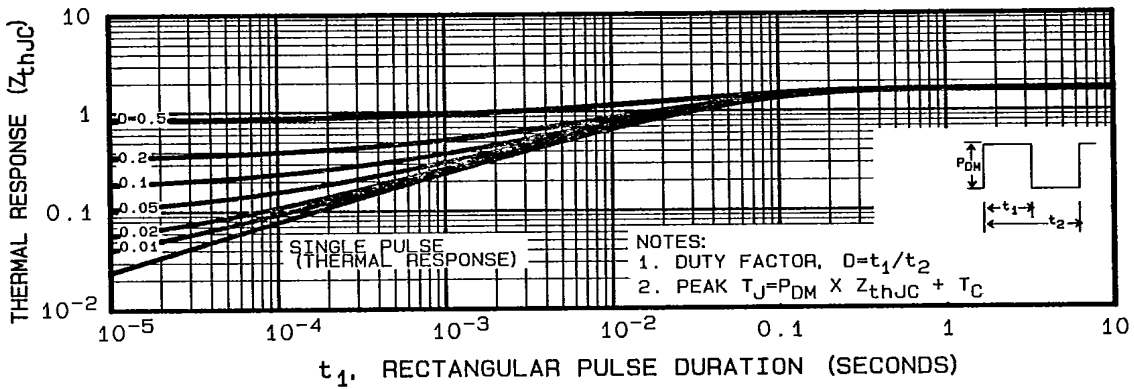

Fig. 5 — Maximum Effective Transient Thermal Impedance, Junction-to-Case Vs. Pulse Duration
- ① T_J = 25°C to 150°C
- ② Repetitive Rating :Pulse width limited by max. junction temperature. See Transient Thermal Impedance Curve (Fig.5).
- ③ @ V_{GS} = -25V, T_J = 25°C, L = 100μH, R_G = 25Ω.
- ④ Pulse Test : Pulse width ≤ 300ms, Duty Cycle ≤ 2%.